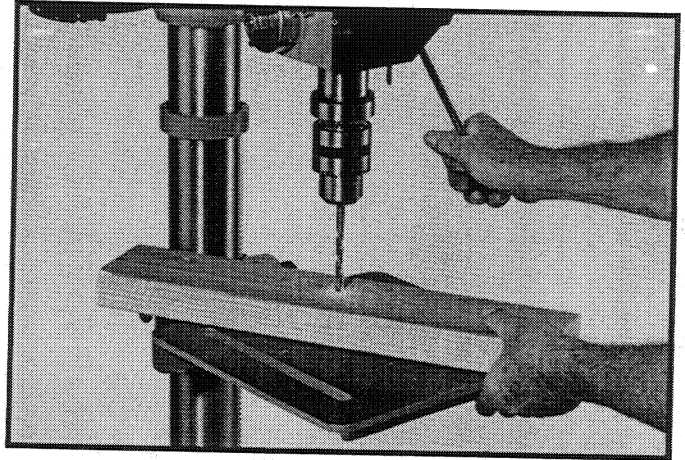

Fig. 37
**IMPORTANT:** When the workpiece is long enough it should always be positioned on the table with one end against the column, as shown in Fig. 37. This prevents the workpiece from rotating with the drill bit or cutting tool, causing damage to the workpiece or personal injury to the operator. If it is not possible to support the workpiece against the column, the workpiece should always be fastened to the table using clamps or a vise.